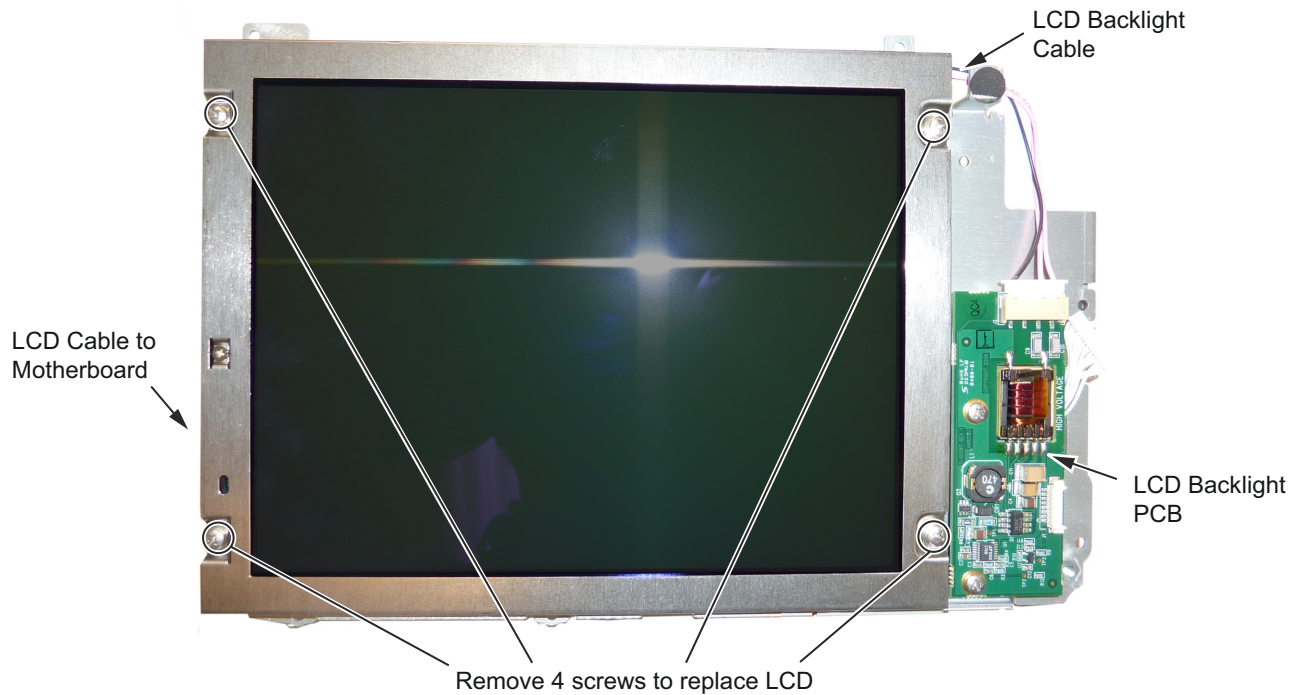

Figure 6-25. Replacing the LCD
5. Use a Phillips screw driver to remove the four screws securing the LCD to the housing (Figure 6-25).